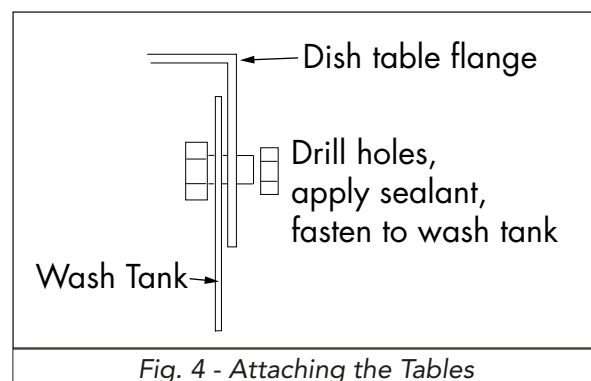

Fig. 4 - Attaching the Tables
3. Set the tables inside the machine making sure the table flange fits against the wash tank wall. Attach the tables to the machine applying a silicone sealant to the mating surfaces. See Fig. 4.